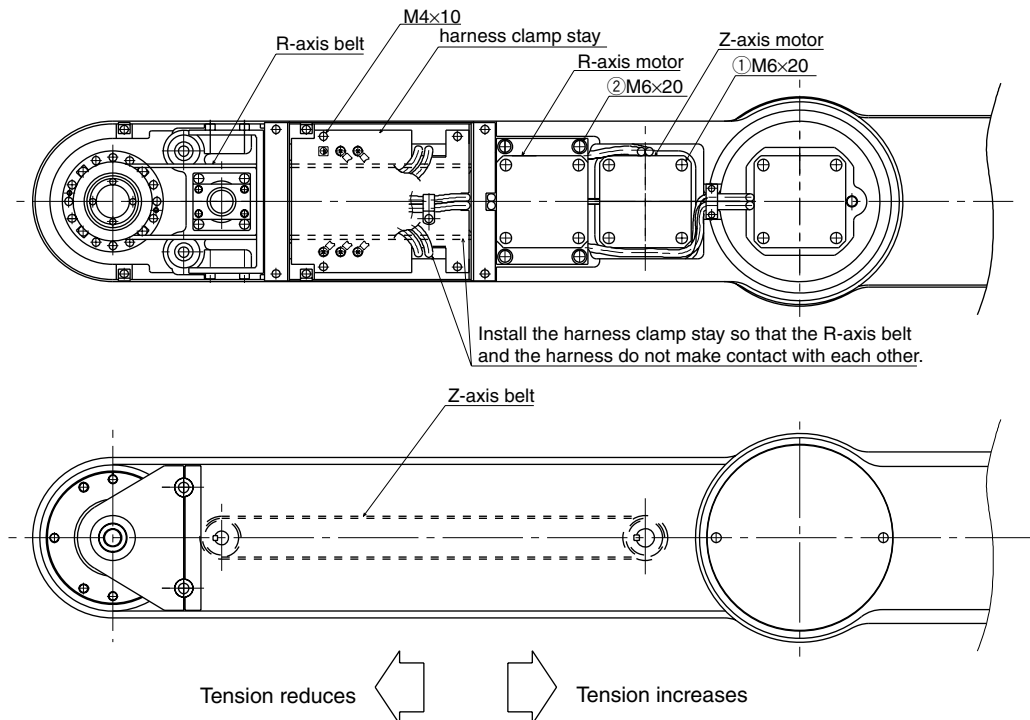

Fig. 4-19 R6YXX1200
- 6) Remove the bolts (M4×10L, 4 pieces) and then remove the harness clamp stay from the Y-axis arm. (See Fig. 4-19.)
1. Loosen the bolt 1 shown in Fig. 4-19.
1. Loosen the bolt 2 shown in Fig. 4-19.
- 11) Reattach the harness clamp stay to the Y-axis arm. (See Fig. 4-19.)